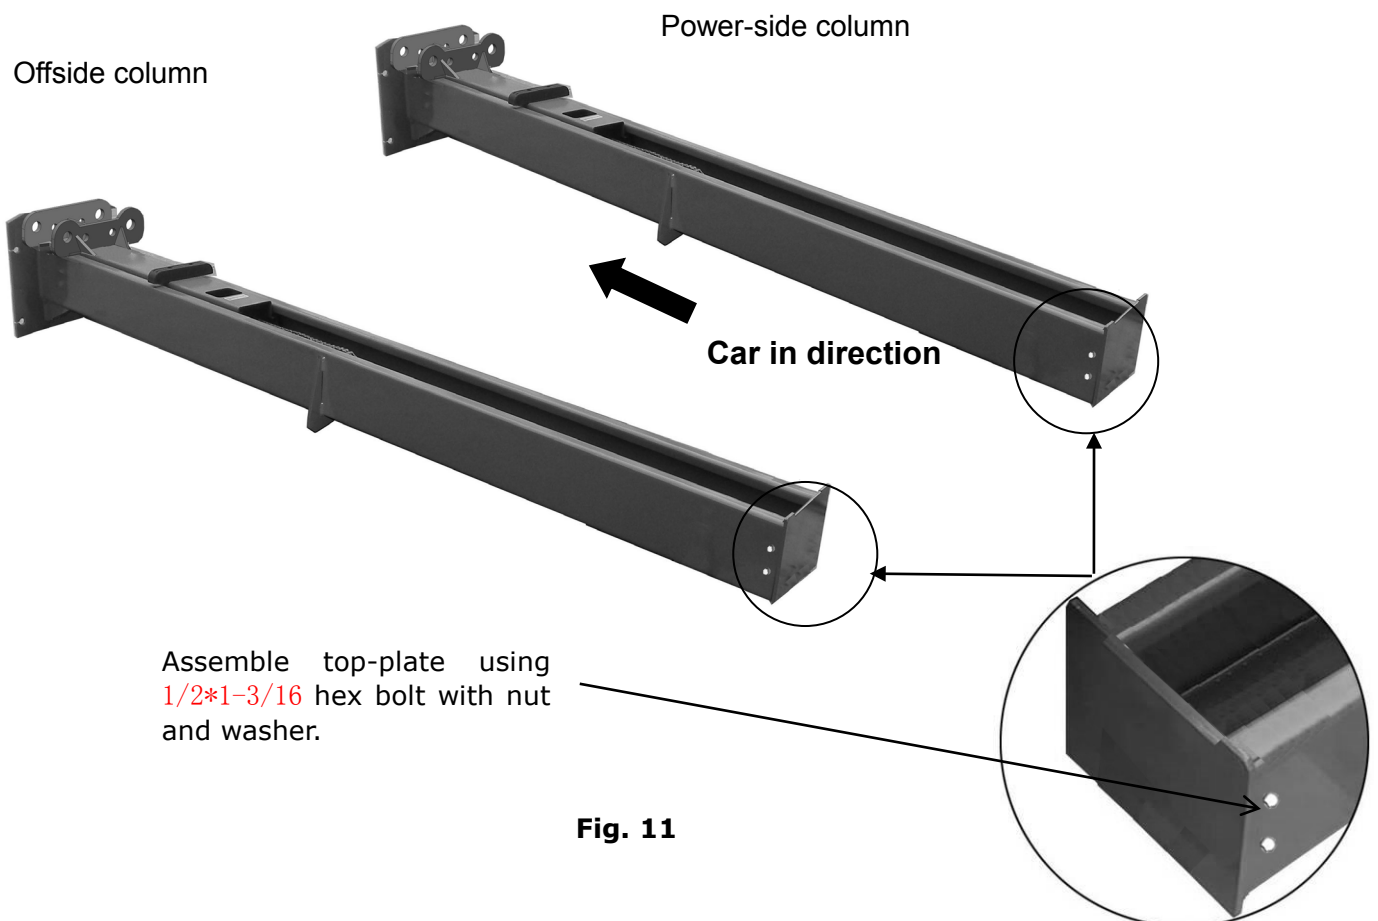

Fig. 11
D. Lay down two columns on the installation site parallelly, position the power-side column according to the actual installation site. Usually, it is suggested to install Power side column on the front-right side from which vehicles are driven to the lift. Then install the top plate (**See Fig. 11**).